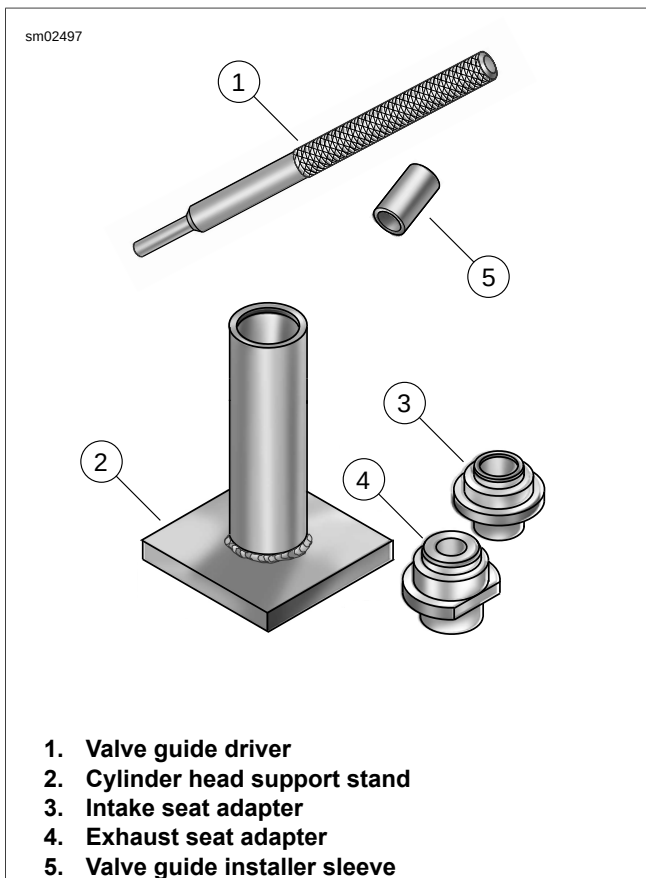

Figure 3-45. Valve Guide Replacement Tools
1. See Figure 3-45. Prepare cylinder head for valve guide replacement.
- b. Insert sleeve of appropriate seat adapter (3 or 4) into tube at top of support stand (2).
- a. See Figure 3-45. Insert sleeve of the appropriate seat adapter (3 or 4) into tube at top of support stand (2). Position cylinder head so that valve seat is centered on seat adapter.